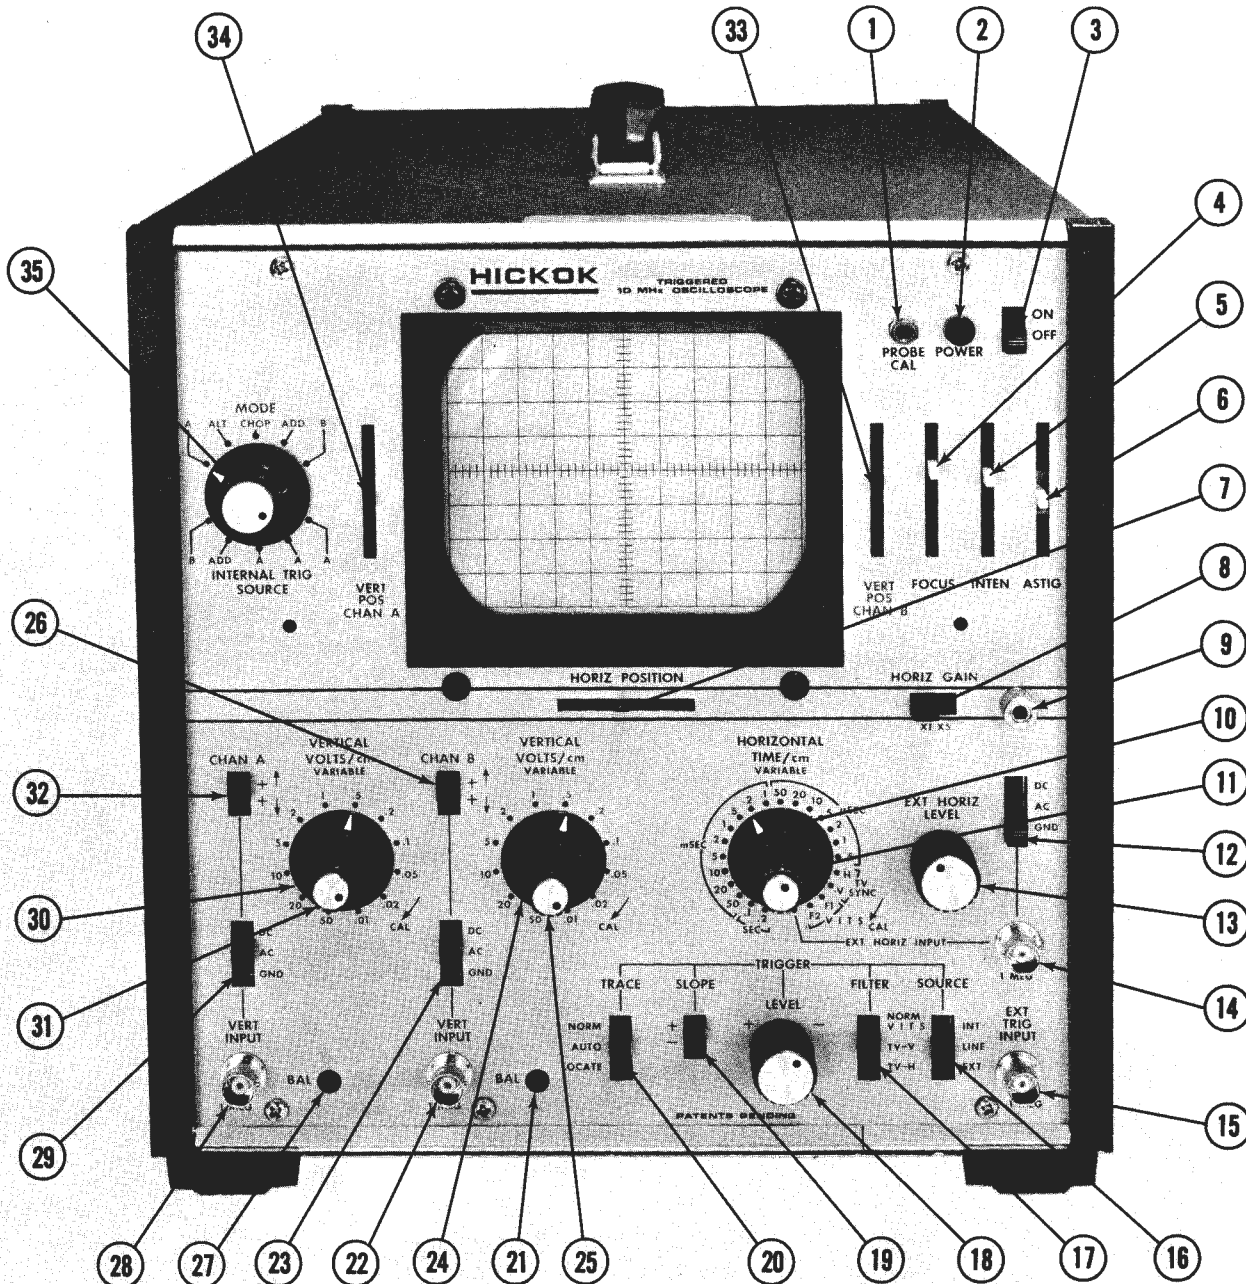

Figure 2-1. Controls and Their Locations
a. The various controls and connectors are described in the following subparagraphs together with their functions. For location of the controls and connectors, refer to figure 2-1. The index numbers on figure 2-1 correspond to the subparagraph number.
(1) PROBE CAL tip jack. Provides a square wave voltage of approximately 7.5 volts peak to peak at 1 kHz for calibrating high impedance voltage divider probes when used with the oscilloscope.
(2) POWER indicator. Lights when power is ON.
(3) ON-OFF power switch. Controls power line input to the oscilloscope.
(4) FOCUS control. Adjusts focus of CR tube beam to control sharpness of trace.
(5) INTEN control. Adjusts brightness of trace.
(6) ASTIG control. Used in conjunction with FOCUS control to provide maximum sharpness of trace.
(7) HORIZ POSITION control. Permits horizontal positioning of trace on CR tube screen.
(8) HORIZ GAIN, X1 - X5 switch. Permits increasing the horizontal gain by a factor of 5 to expand the display for easier viewing.
(9) Ground binding post. Provides an external ground connection to the chassis of the oscilloscope.
(10) HORIZONTAL TIME/cm switch.